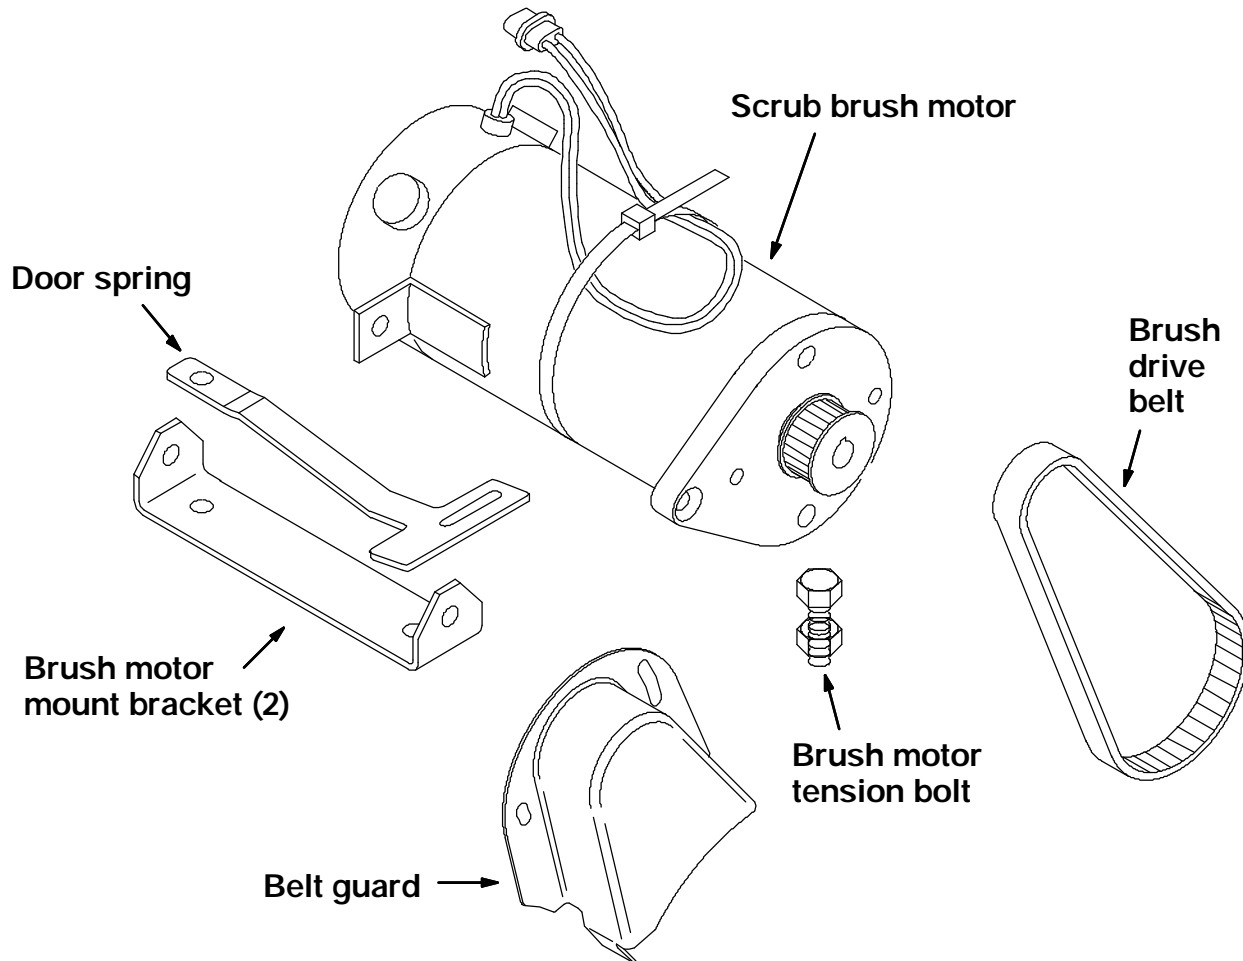

FIG. 1 - Cylindrical Scrub Head
(Refer to FIG. 1)
3. Remove both the left and right hand scrub brush motor belt guards. Retain the hardware. (Refer to Fig. 1)
4. Loosen and remove both brush motor tension bolts. Discard this hardware. (Refer to Fig. 1)
5. Slip the brush drive belts off the motor drive gear. (Refer to Fig. 1)
6. Remove the hardware holding the brush motors to the mount brackets. Retain this hardware. (Refer to Fig. 1)
7. Remove the hardware holding the motor mount brackets to the scrub head frame. Retain the hardware and the door springs. Discard the old motor mount brackets. (Refer to Fig. 1)
(Refer to FIG. 1 and 2)
1. Install the new motor mount brackets (2) and existing door springs on the scrub head frame. Reinstall the hardware and tighten to 18 - 24 Nm (15 - 20 ft lb). (Refer to Fig. 1)